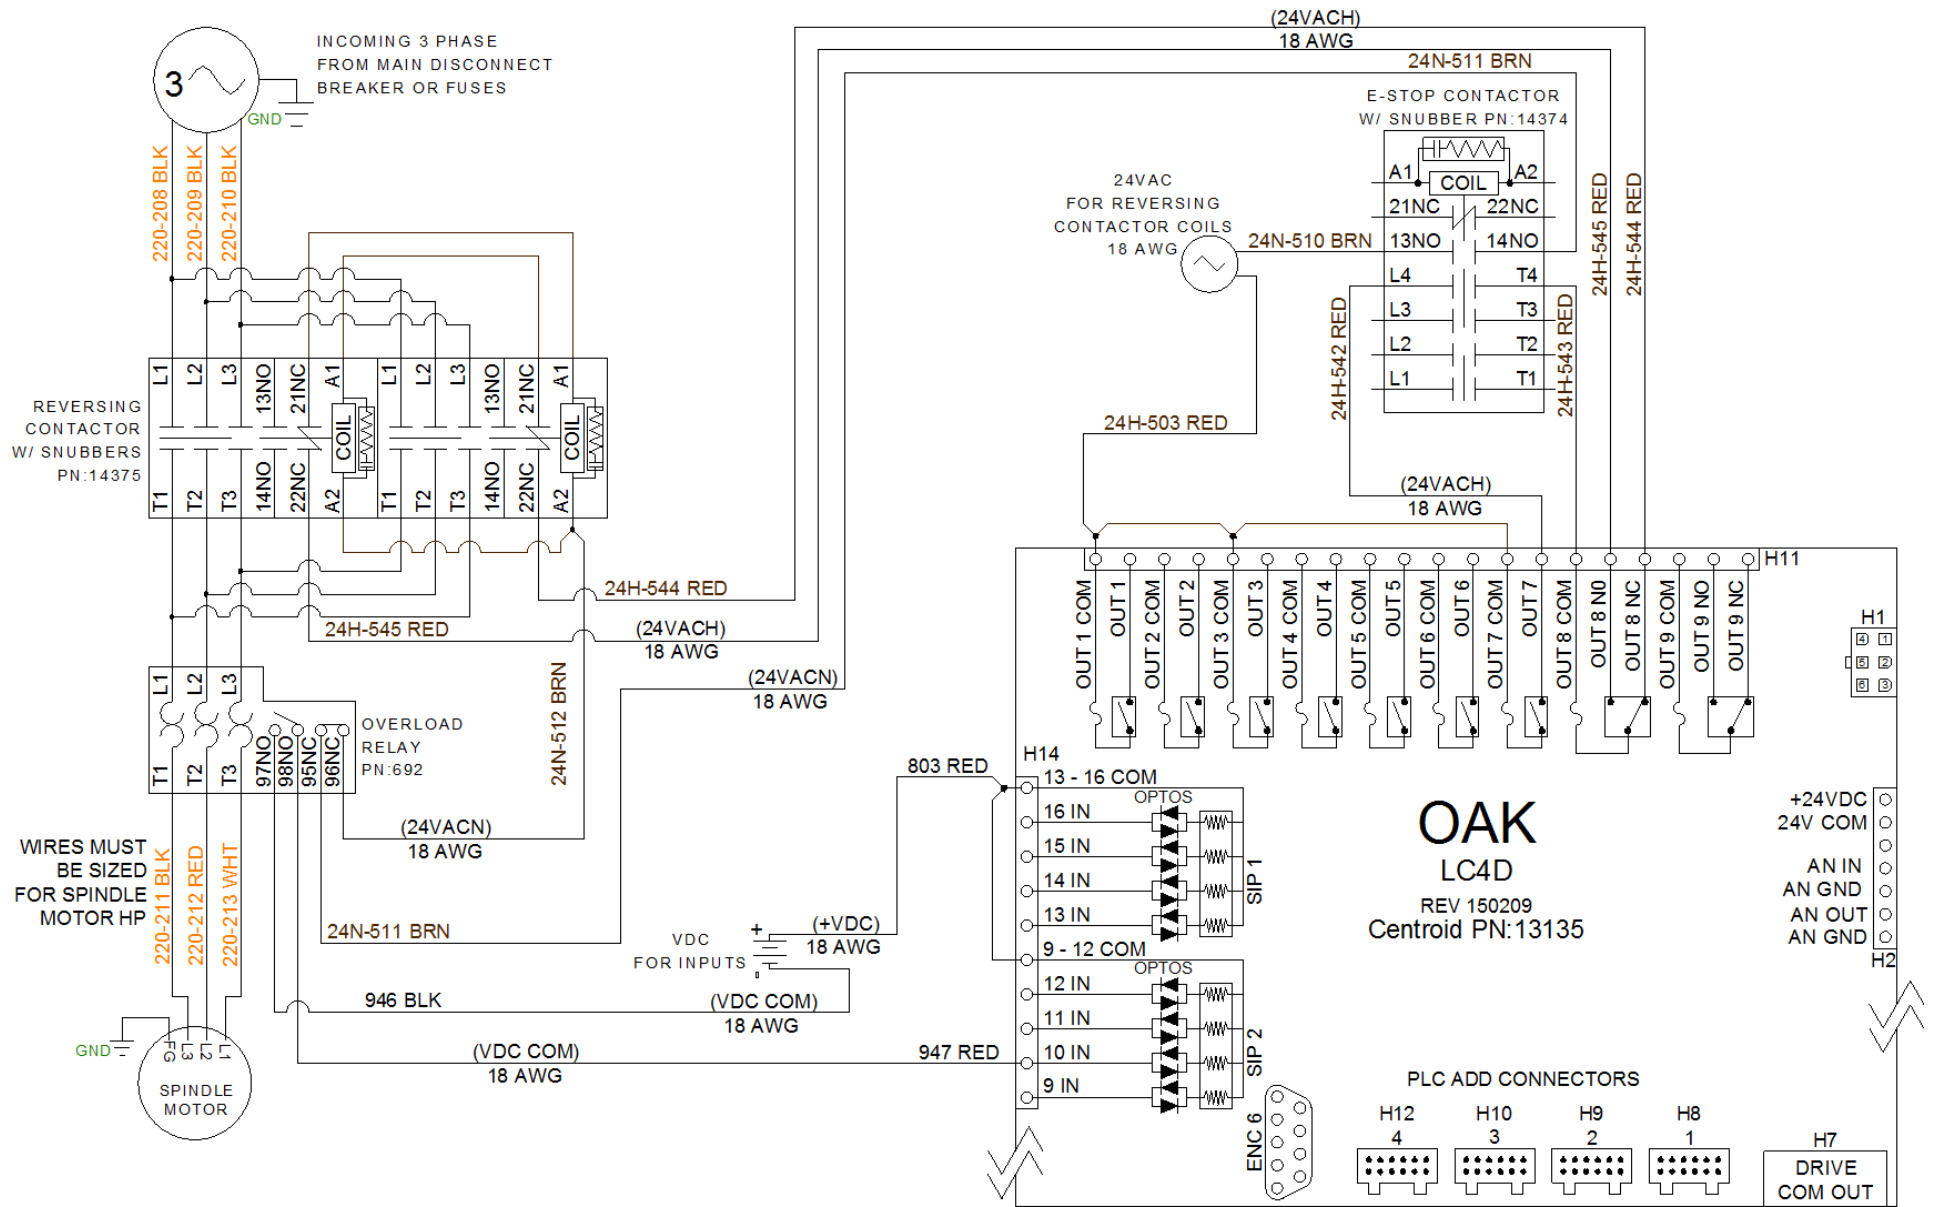

Figure 5.8.2
- **Reversing Contactors:** (logic connections shown in Figure 5.8.2, power connections in 5.8.3)